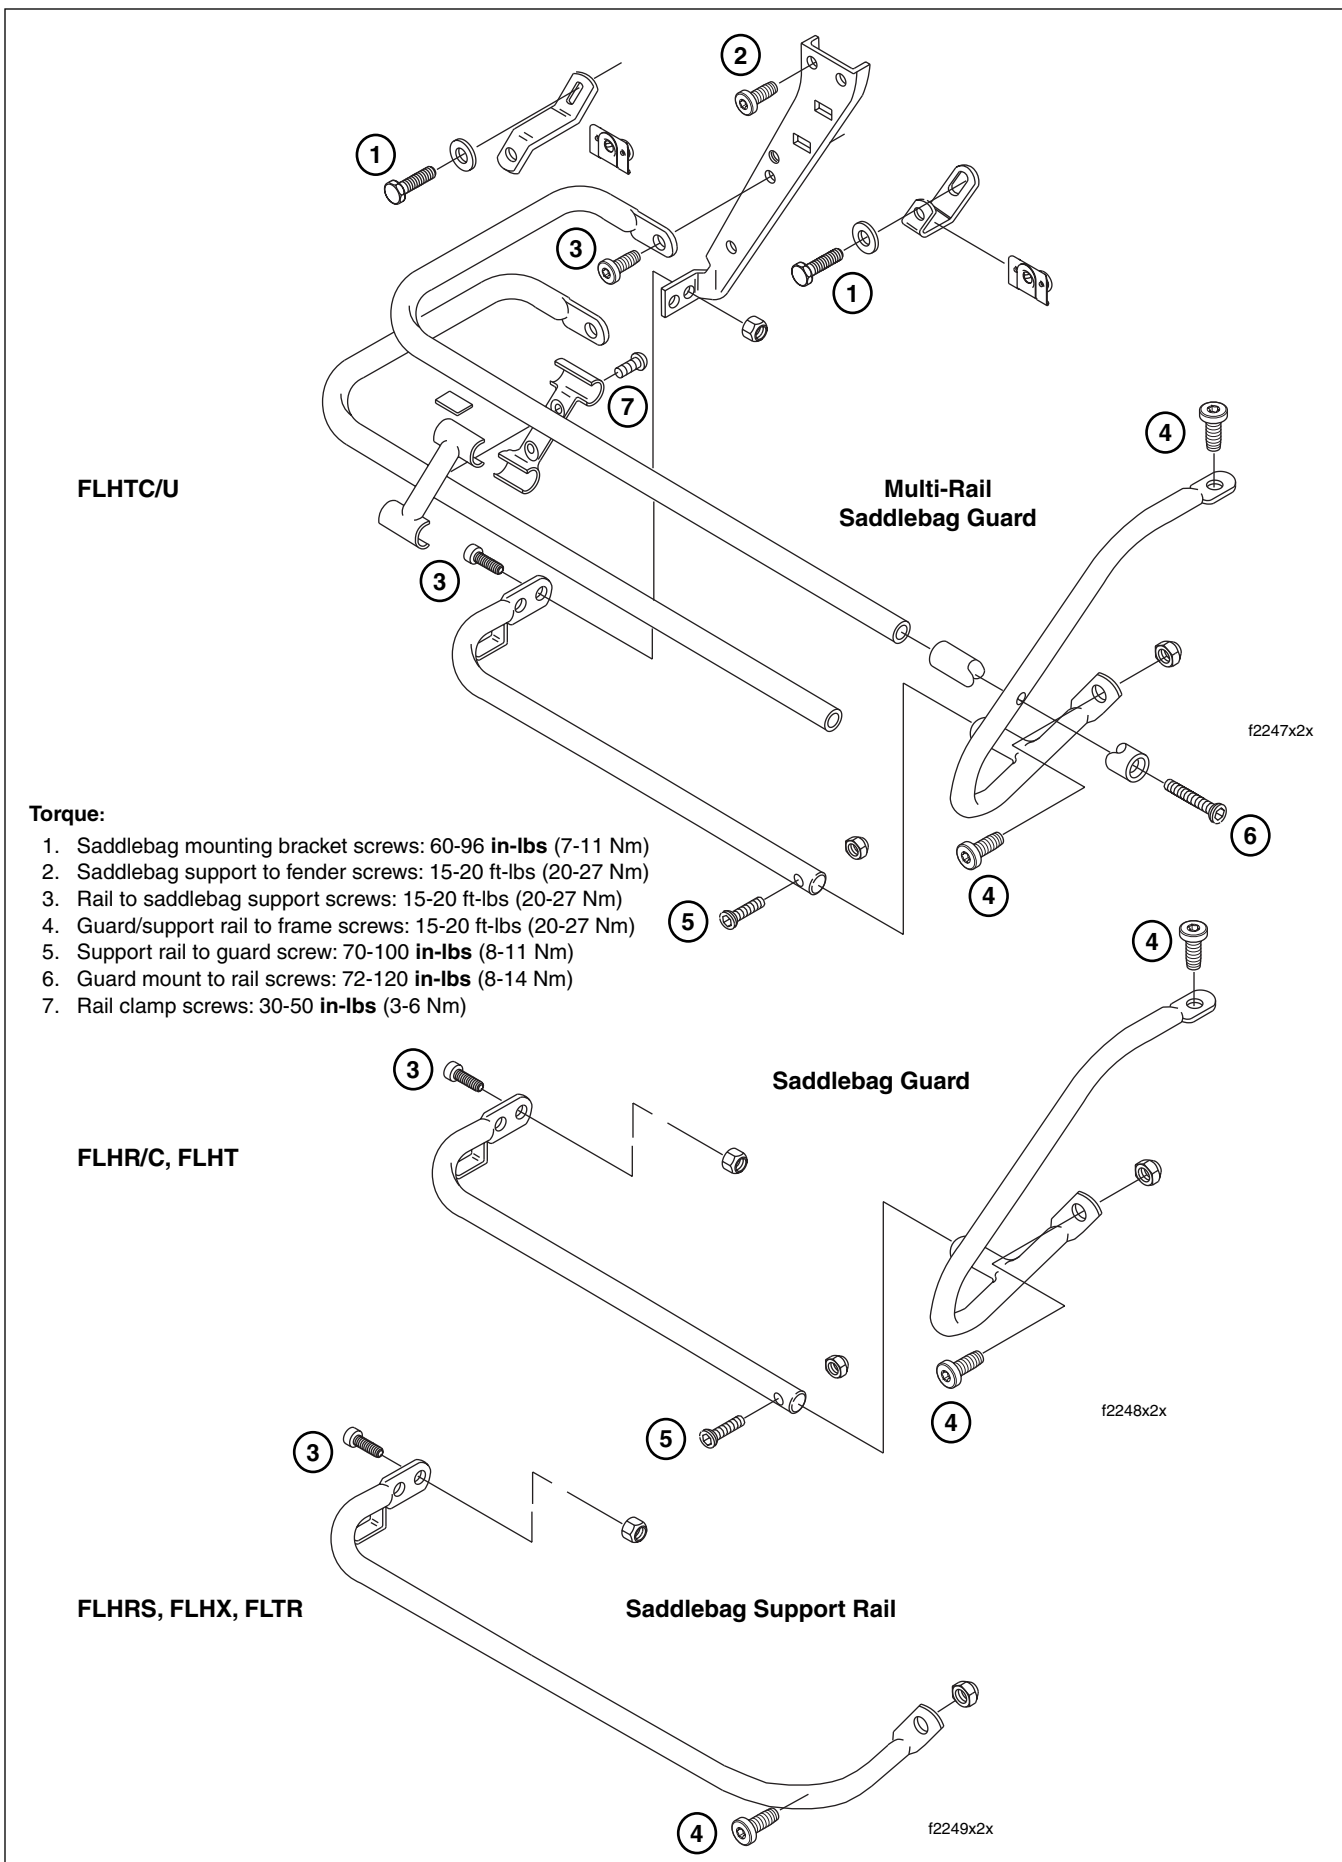

Figure 2-143. Saddlebag Guards/Support Rail
2. Disassemble saddlebag guard, support and/or rails as necessary. See Figure 2-143.
1. Assemble saddlebag guard, support and/or rails as necessary. Replace any damaged parts. See Figure 2-143.